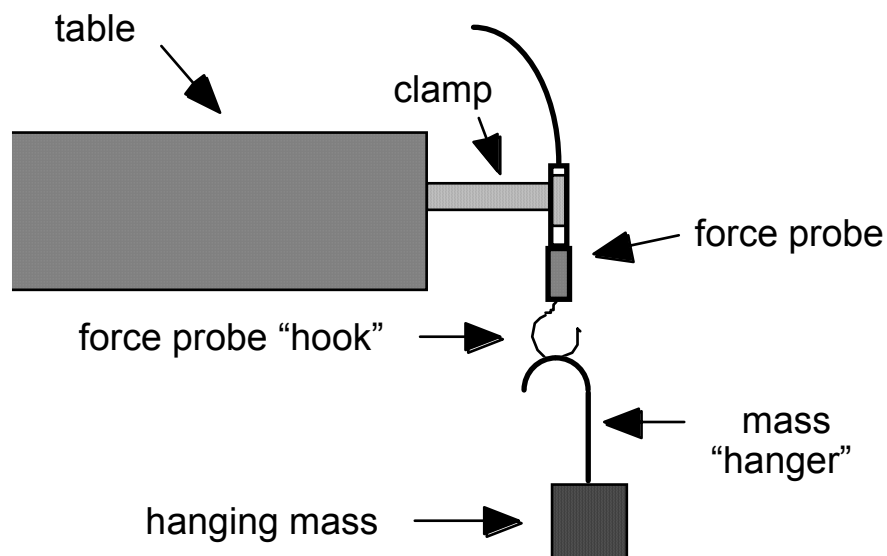

Figure 2. Experimental setup for Activity 1
2. Set up the force probe. Clamp the force probe to a support with its hook pointing vertically downward as in Figure 2. The probe should be plugged into DIN 1 of the Laboratory Interface Box (flat gray box).